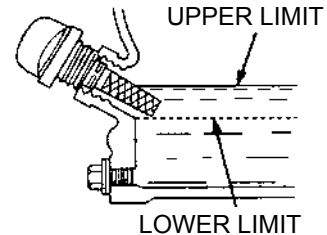

**Figure 6. Engine Oil Dipstick (Removal)**
2. Remove the filler dipstick from the engine oil filler hole (Figure 6) and wipe it clean.